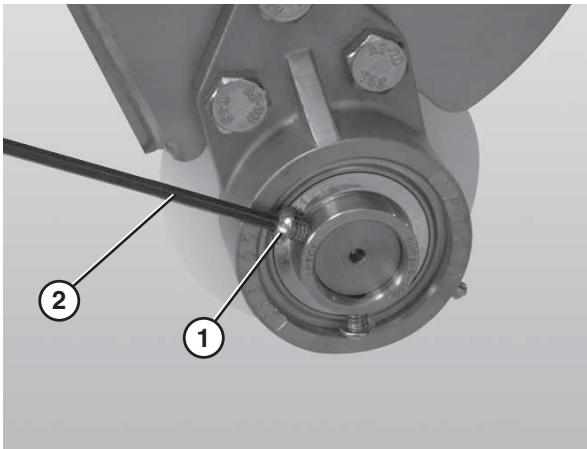

Figure 85
3. Tighten the 3 hole flange with bearing fasteners (**Figure 85, item 1**) using a hex wrench (**Figure 85, item 2**).